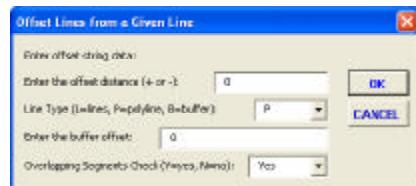

Figure 8
- 5b.** Enter in the indicated data fields of Figure 8:
• **If they are**, an appropriate error message will be displayed. Once the warning message is dismissed, the dialog box of Figure 8